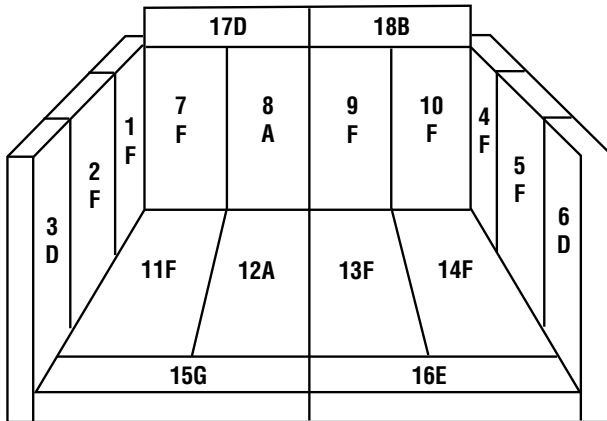

Figure 15
1. Install bricks #1-18 in the numbered sequence shown in **Figure 15 (Page 14)**.